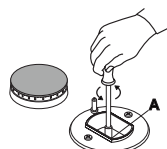

fig.9
- Unscrew the nozzles (fig. 9, using a 7 mm socket spanner and replace them with nozzles for the new type of gas (see table 1 "Burner and nozzle specifications").